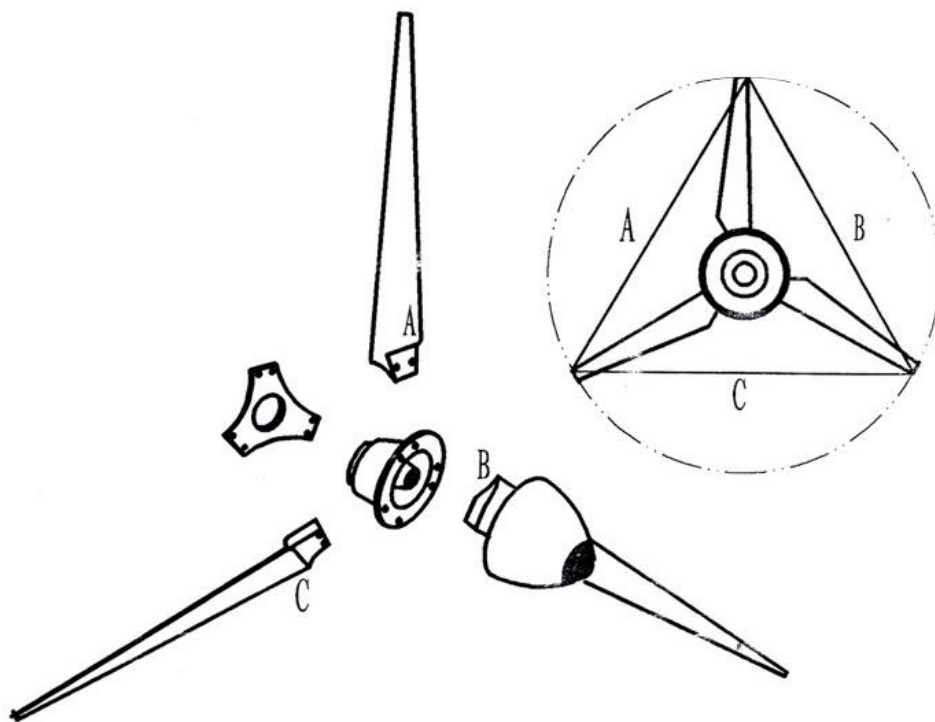

Fig. 7 Wind Rotor
4.7 Torque should be 30 – 35 N.m (see fig.7).